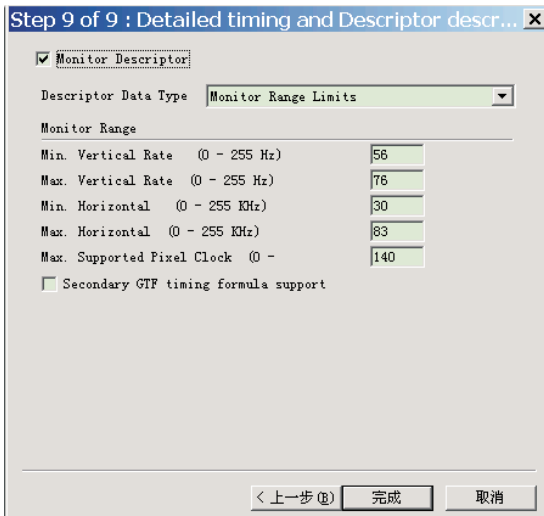

Fig.39
- Click Next , bring up Fig. 39.